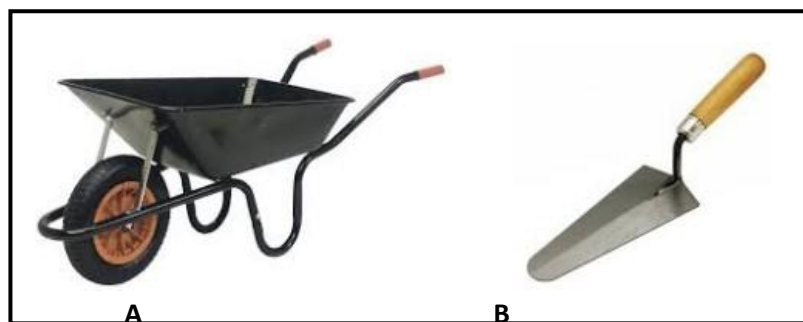

FIGURE 1.2
1.2 FIGURE 1.2 below shows a hand tool and one piece of site equipment.